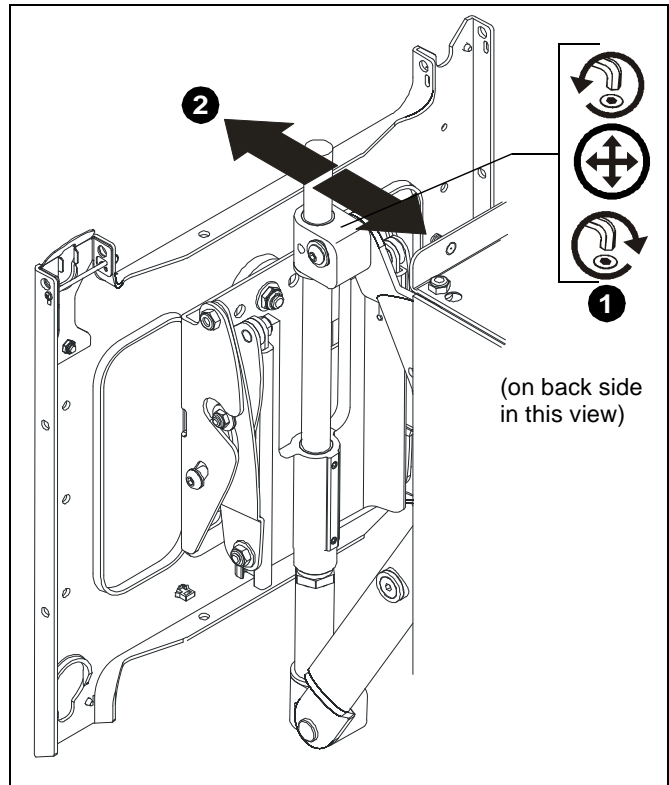

Figure 16
1. With display installed, tighten or loosen adjustment screw using hex wrench. (See Figure 16)